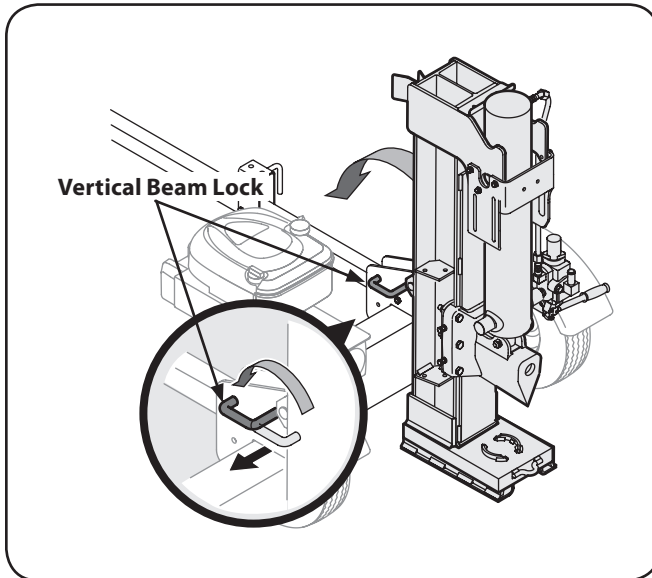

Figure 3-3
1. Pull out the vertical beam lock, rotate it back, and pivot the beam to the horizontal position until it locks. See Fig. 3-3.